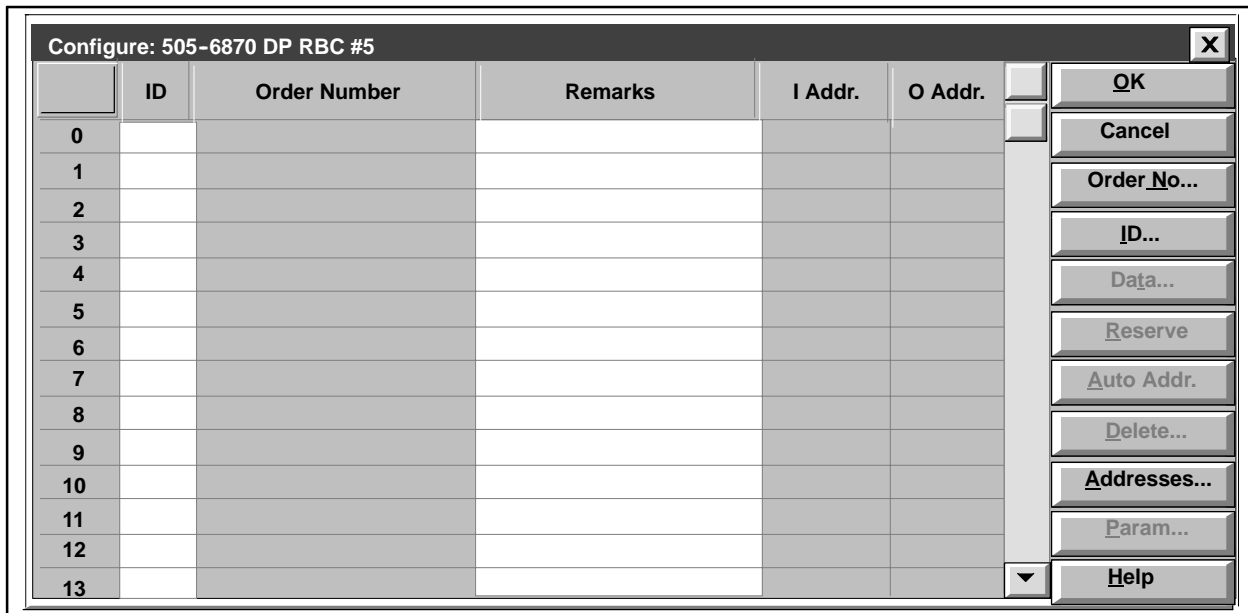

Figure 9-6 Configure Dialog Box
- Click the **Configure** button. The Configure dialog box appears. For different selections, this dialog box may require different information. Figure 9-6 shows the Configure dialog box for the SIMATIC 505-6870 DP RBC. Steps 9-15 describe how to insert slave modules for the 505 line. For other kinds of modules, see your PROFIBUS documentation for details.